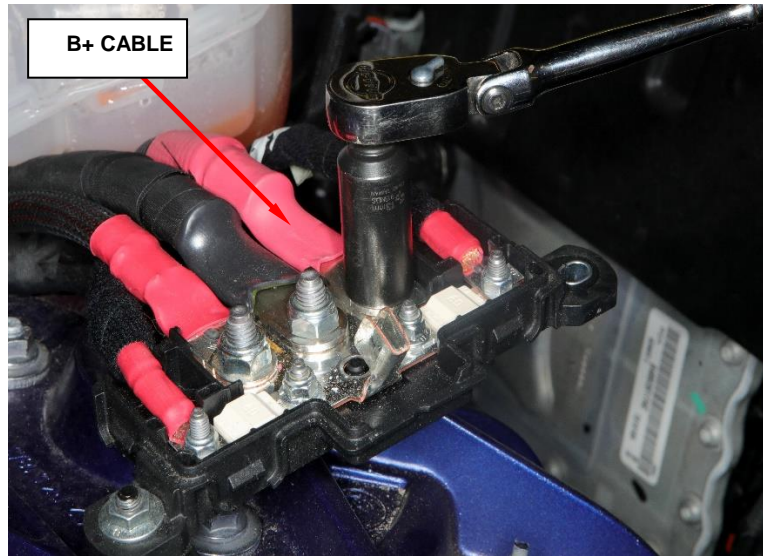

Figure 9 – Power Distribution Center
14. **If equipped:** Unfasten and disconnect the right side B+ cable from the power distribution center (Figure 9).
7. **If equipped:** Reconnect the B+ cable to the power distribution center (Figure 9).